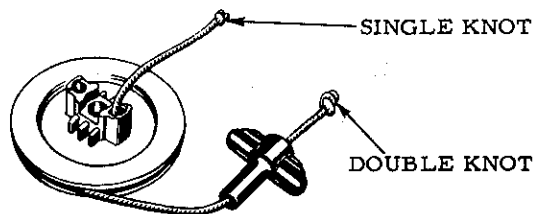

FIG. 9
1. When installing a new cord (16) in rotor, tie a single knot in end, thread through rotor hole as shown in Fig. 9, then wind rope on rotor as explained in paragraph 3 of Assembly Procedure. Replace handle and tie a double knot in the end of cord.